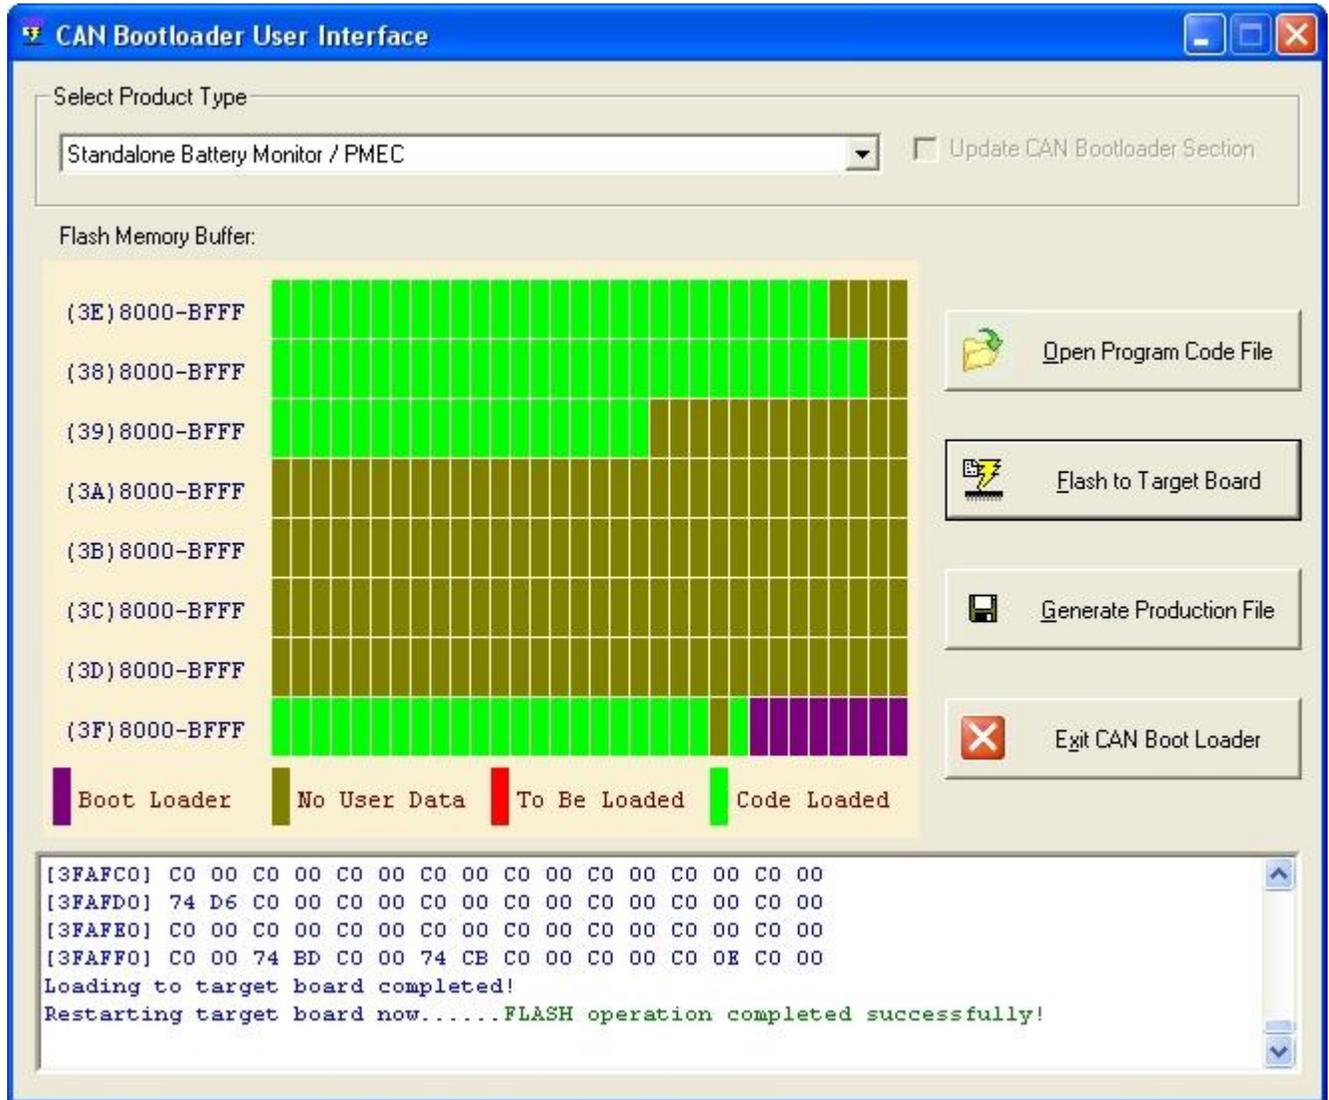

Figure 64. CAN Bootloader User Interface – Flash Operation Completed
**Step 3** - Click the “Flash to Target Board” button to start flashing new firmware to product. Blocks flashed successfully will change from red to green (Figure 64).
**Step 4** - Wait until all red blocks turn green and a successful message is displayed at the bottom (Figure 64).